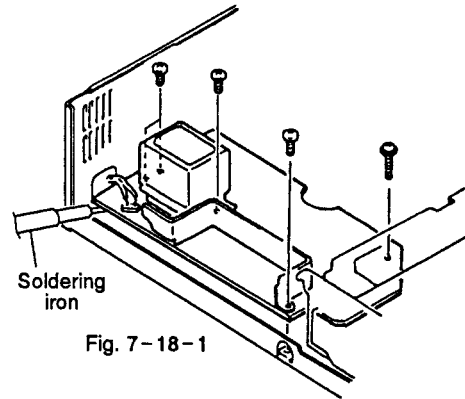

Fig. 7-18-1
1. Remove the screw fixing the SYPS assembly and keep the SYPS assembly apart about 3cm from the base chassis (See Fig. 7-18-1).
2. Insert a soldering iron between the SYPS assembly and base chassis, alternately desolder the lapping pins of an AC power cord, and remove the lapping pins (See Fig. 7-18-1).